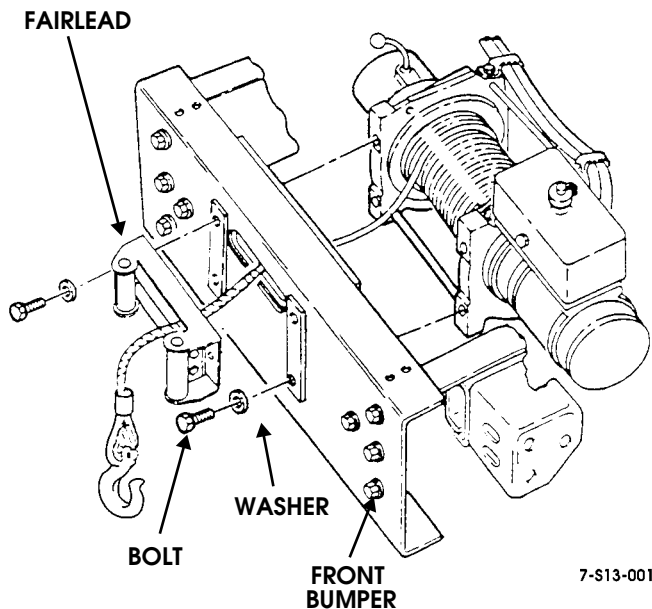

Figure 13-4: Winch Fairlead
2. Remove washers, bolts, and fairlead from front bumper (Figure 13-4).
1. Install fairlead on front bumper with washers and bolts. Tighten bolts to 60 lb-ft (81 N•m) (Figure 13-4).